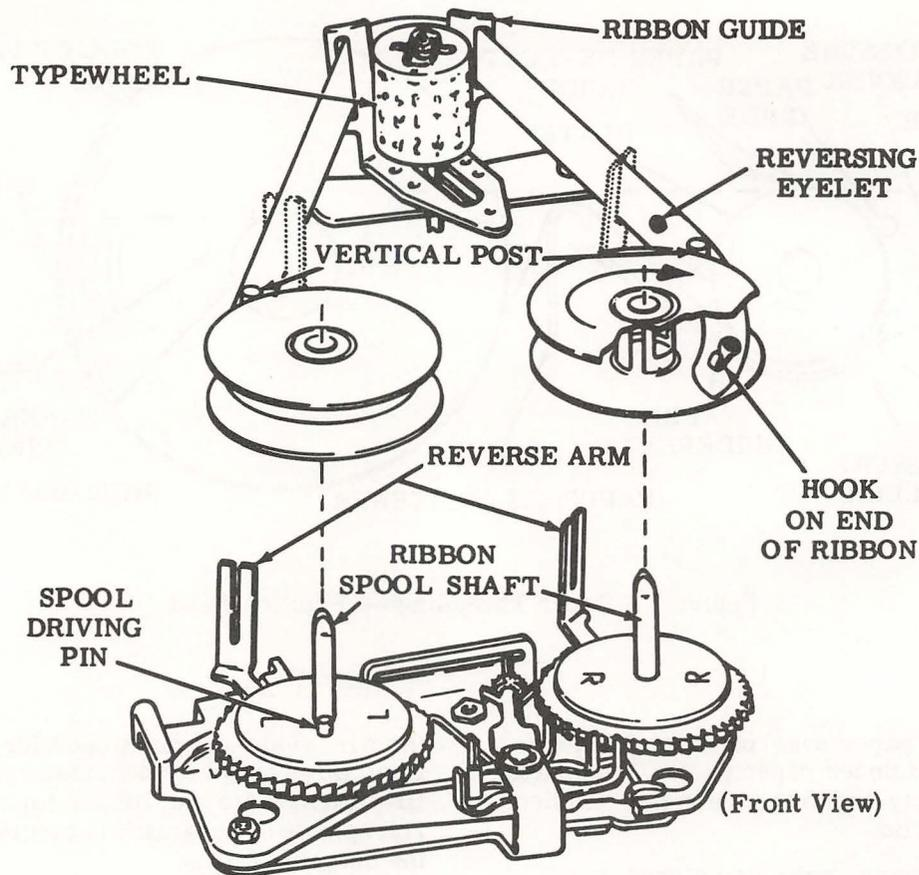

Figure 6 - Ribbon Threading
3.07 Figure 6 illustrates ribbon threading.